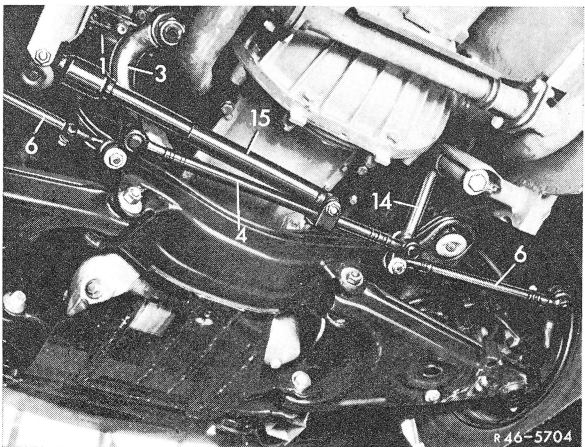

Fig. 2
- 1 Unscrew castle nut on joints of drag link (4) (Fig. 2).